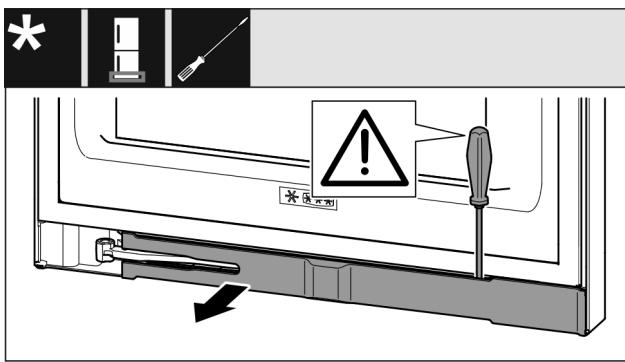

Fig. 11
- ▶ Unlatch the panel with a slotted screwdriver and swivel it to one side Fig. 11 0.